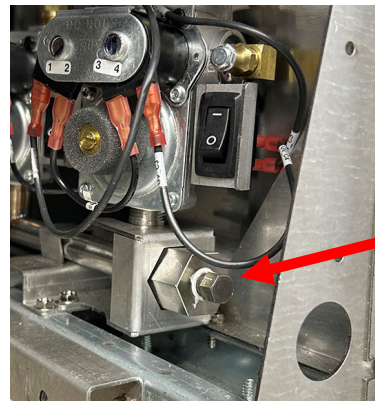

Figure 20
- 21) Attach a manometer to the inlet tap (see Figure 20).